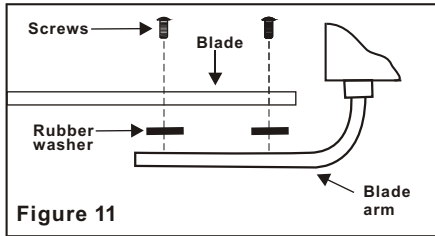

Figure 11
**Step 1** Attach the blades to the blade arms using three screws and rubber washers as shown in Figure 11. Start a screw into the arm, do not tighten. Repeat for the 2 remaining screws and washers.